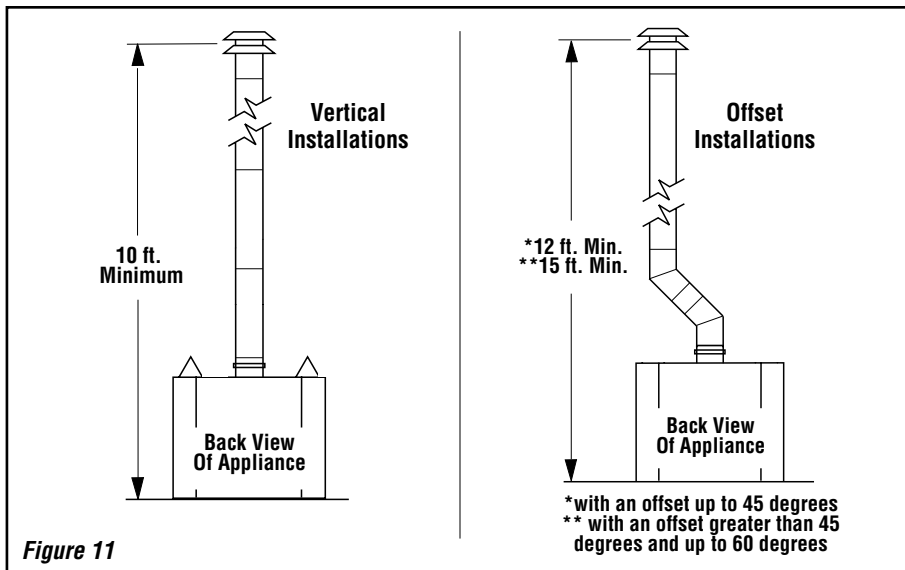

Figure 11
3. Refer to **Figure 11**. The following venting configurations may be installed: